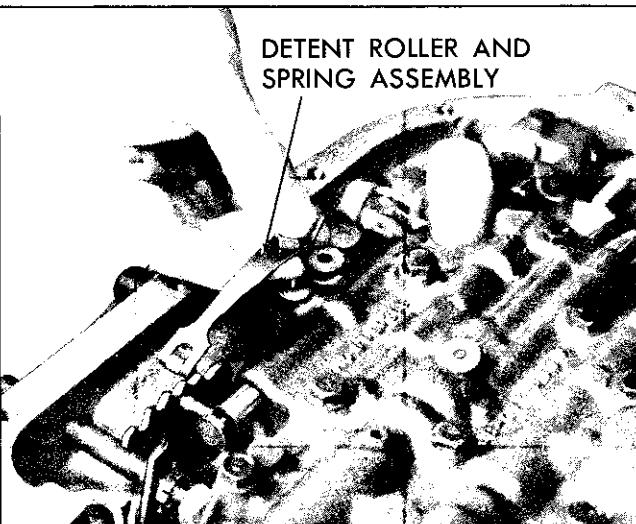

Fig. 7E-18 Removing Detent Roller and Spring Assembly
6. Remove the strainer retainer bolt (Fig. 7E-16).